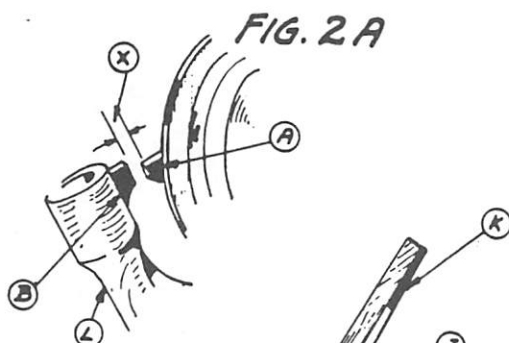

FIG. 2A
(AT THIS POINT THE DOG (A) AND THE STOP BOLT (B) (FIG. 2A) ARE ABOUT $\frac{1}{8}$ " APART AT (X))